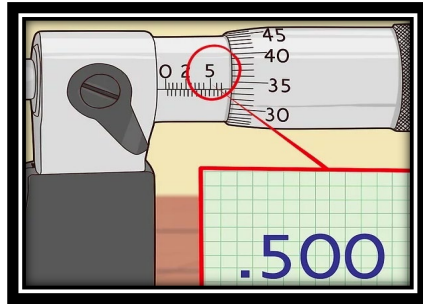

Fig 2
2. Read the whole number on the sleeve first. The last visible number will read as the thousandths. For example, if the last number you can see on the sleeve is 5, then it would read 500 thousandths, or .00005. (FIG 2)